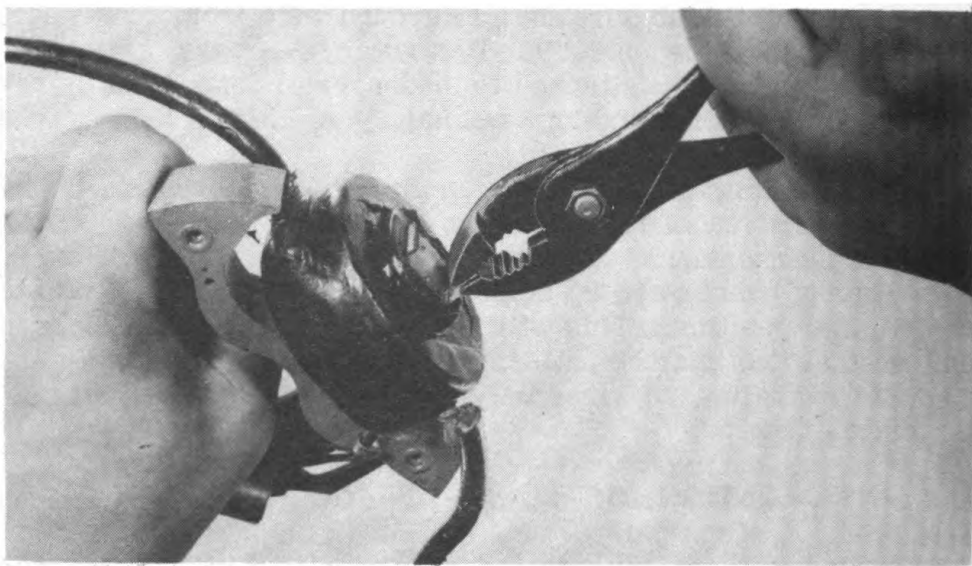
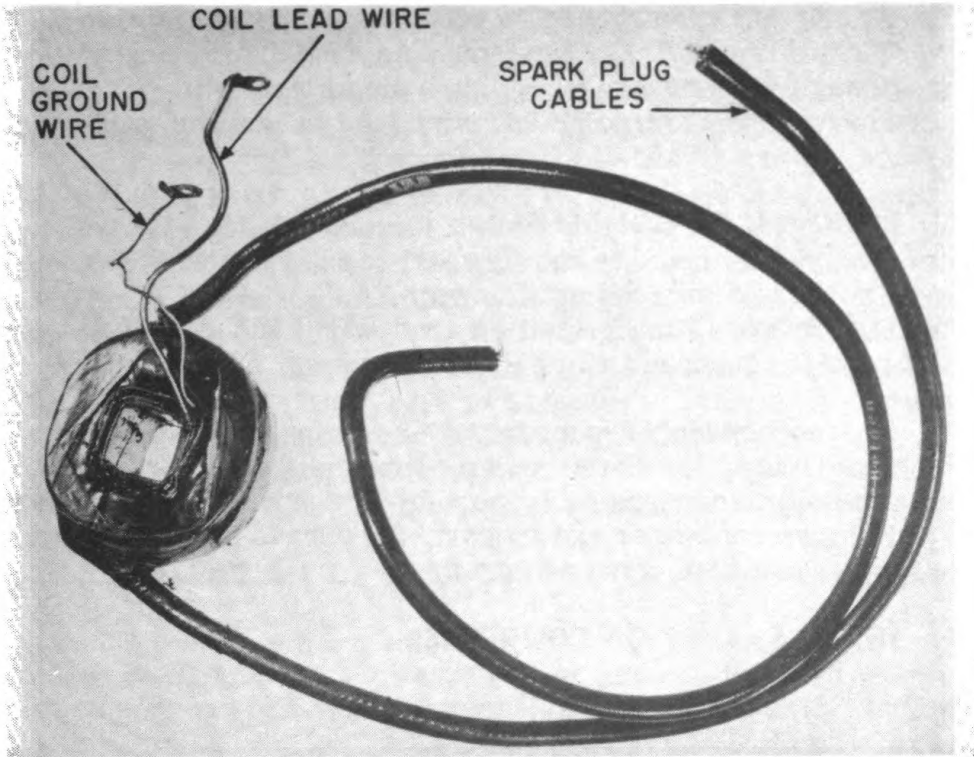

Fig 49. Removing insulation wedges from magneto coil.
Fig 50. Magneto coil and attached wiring.
a. Detach coil lead wire and coil ground wire from condenser. Loosen ground (the uninsulated wire) by removing condenser support by which it is attached to condenser. Loosen lead by removing small hex nut and lock washer by which it is held to pole of condenser. (Figs 50 and 51)
c. Having pushed coil up some distance, push it down again to its original position. This will cause insulating wedges to "pop up" so that they may be pulled out with pliers as shown in figure 49. Coil and attached wires and cables can now be lifted off stator plate. (Fig 50)
- d. Attach coil lead wire to condenser pole. To do this, loosen both machine screw at pole and the hex nut at condenser support, thread wire through support, and attach to pole. (Figs 50 and 51)